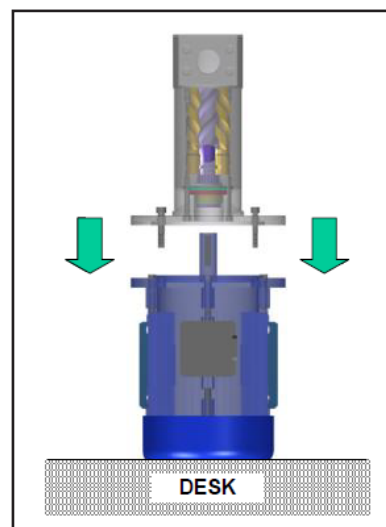

Figure 6 - Hollow shaft mounting
- Put the motor in **vertical position**, as per drawing (see **Figure 6**).